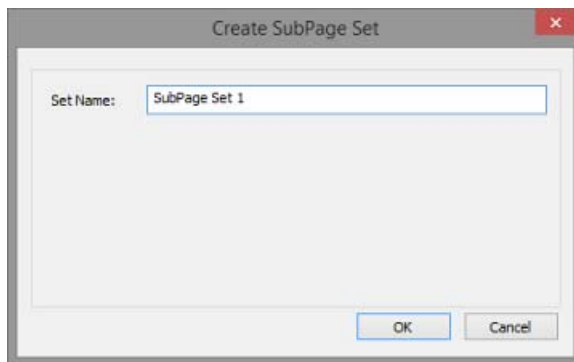

FIG. 109 Create SubPage Set dialog
2. Under *Sub-Page Sets*, click **New**. This invokes the *Create Sub-Page Set* dialog (FIG. 109):